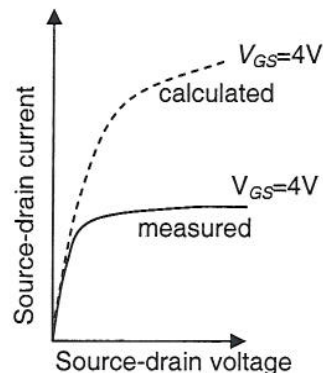

Figure 1.1: the calculated (dashed line) and measured (full line) characteristics of an enhancement mode MOSFET.
- d) Give the reason for the discrepancy between the theoretical (dashed line) and measured (full line) drain current characteristics of a MOSFET given in fig.1.1. You can assume no short channel effects occur. The theoretical curve is calculated using the  $I_{DS}$  equation in the formulae list. [2]